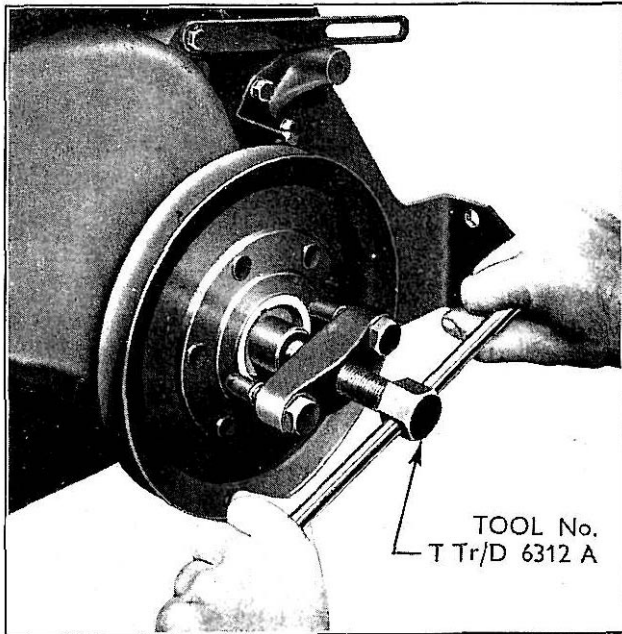

Fig. 31
- 18 Remove the crankshaft ratchet and pulley using the turning bar (tool No. TTr/D 6319) to undo the crankshaft ratchet and puller (tool No. TTr/D 6312-A) to withdraw the pulley. (See Fig. 31.)